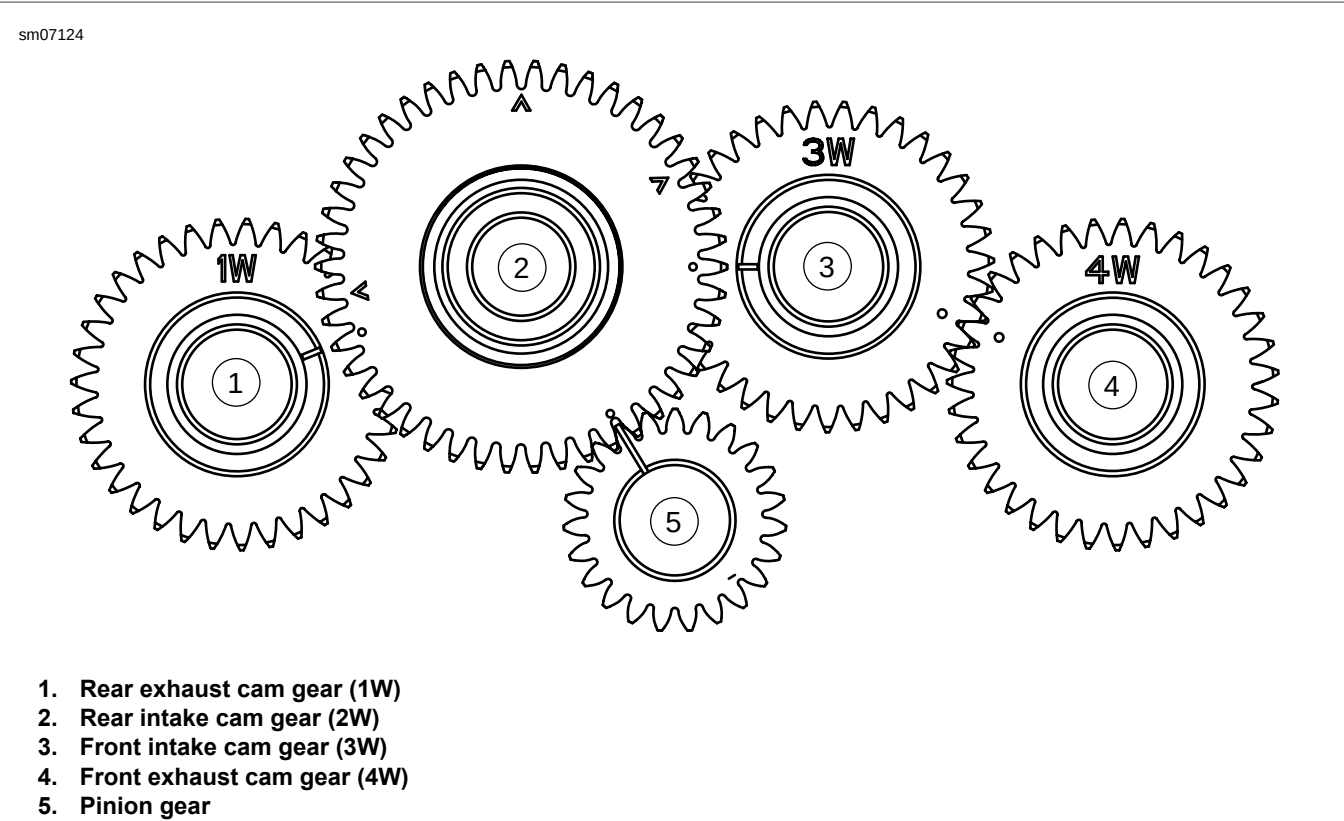

Figure 3-162. Cam, Pinion Gear and Timing Mark Indexing (cam #2 "V" marks are not used for timing)
See Figure 3-162. Install rear exhaust and front intake cam gears before rear intake cam gear. This prevents an alignment problem with the pinion gear.
5. See Figure 3-162. Rotate crankshaft until timing mark on pinion gear points exactly at centerline of rear intake cam bushing.
See Figure 3-162. "V" marks on rear intake cam are not used for timing of Sportster model engines.
9. Install front exhaust cam (7). Rotate the cam to line up the timing mark with the timing mark of the front intake cam.
10. See Figure 3-162. Verify timing marks. If necessary, remove a cam, rotate it slightly, and install. If timing marks are off even one tooth, engine will not run correctly.